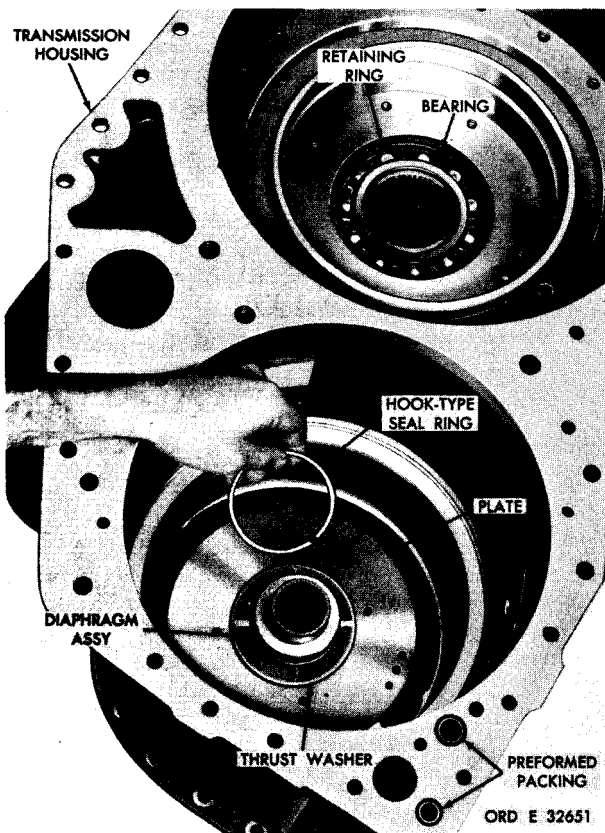
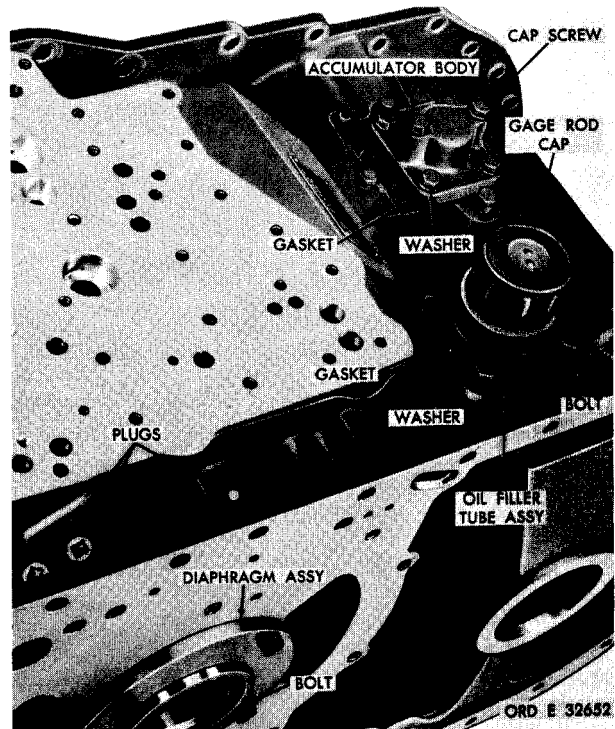

Figure 232. Removing hook-type seal ring from hub of diaphragm assembly
Figure 233. Transmission main housing
a. Remove two hook-type seal rings from the hub of the diaphragm (fig. 232).
b. Remove the thrust washer (fig. 232).
c. Remove two preformed packings from the transmission housing (fig. 232).
d. Remove retaining ring that retains bearing (fig. 232).
e. If necessary to remove the diaphragm assembly, use a 9/16-inch wrench to remove four self-locking bolts retaining diaphragm. Position housing in a press, and press out the diaphragm. Refer to fig. 233.
f. If the diaphragm assembly was removed, remove the diaphragm clamp plate. Refer to fig. 232.
g. Remove the gage rod cap from the oil filler assembly. Refer to fig. 233.
h. Using a 9/16-inch wrench, remove four bolts and lock washers from the oil filler tube assembly. Remove the oil filler tube assembly. Refer to fig. 233.
**\*C2** i. Using a 9/16-inch wrench, remove six cap screws (two different lengths) and lock washers that retain the accumulator body. Remove the accumulator body. Refer to fig. 233.
n. If necessary, the various plugs may be removed from the housing to aid in the cleaning of the oil passages in the housing (figs. 233 and 235).
\*C/W a. Install any plugs removed from the transmission main housing (figs. 233 and 235).
d. Install the output coupling with the bearing into the transmission housing. Install the retaining ring (fig. 232).
\*C2 e. Position the transmission housing on its bottom side. Install the accumulator body and gasket. Secure the body with four 3/8-16 x 1-1/2 and two 3/8-16 x 2-1/2-inch cap screws with lock washers (fig. 233).
g. Install the diaphragm assembly in its housing bore (fig. 233).
\*C2 h. Install the diaphragm clamp plate over the hub of the diaphragm assembly (fig. 232). Align the bolt holes in the plate with the diaphragm assembly. Install four 3/8-24 x 2-1/2-inch self-locking diaphragm bolts (fig. 233).
i. Install two preformed packings on transmission housing (fig. 232).
j. Install two hook-type seal rings on hub of diaphragm assembly (fig. 232).